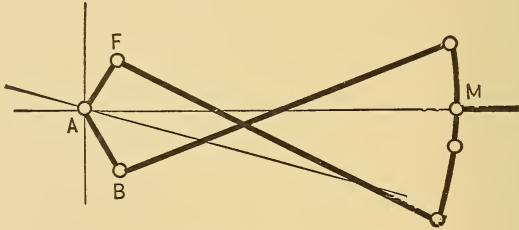

Fig. 86. Stephenson Link, Crossed Rods.
A. Yes ; in some engines they are arranged so as to be as shown in figure 86, in which F is the centre of the forward-eccentric sheave, and B the centre of